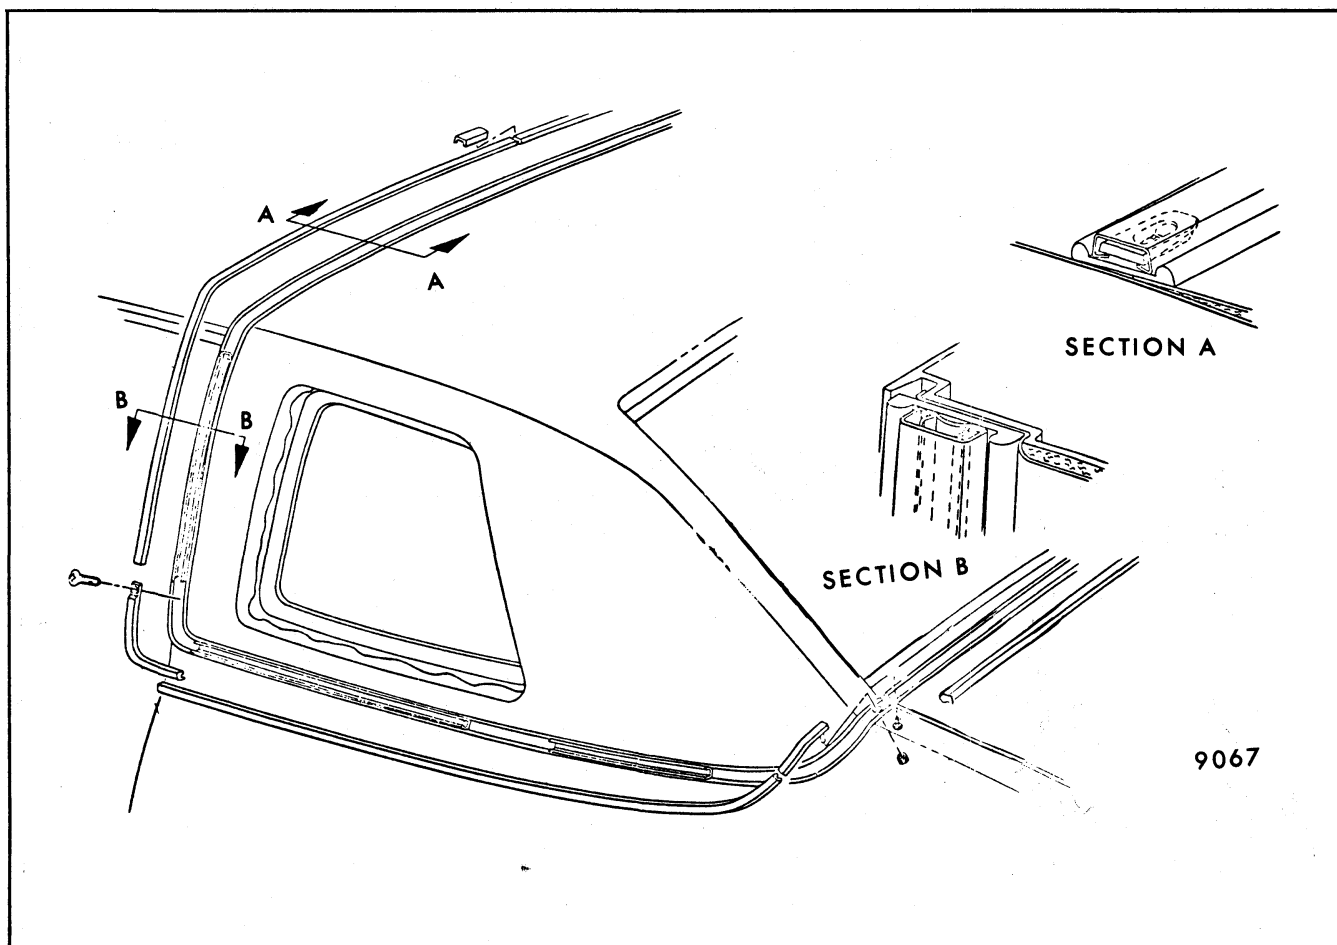

Fig. 8-24-Typical Upper Roof Molding with Vinyl Lace
- (Refer to Figs. 8-24 and 8-25)